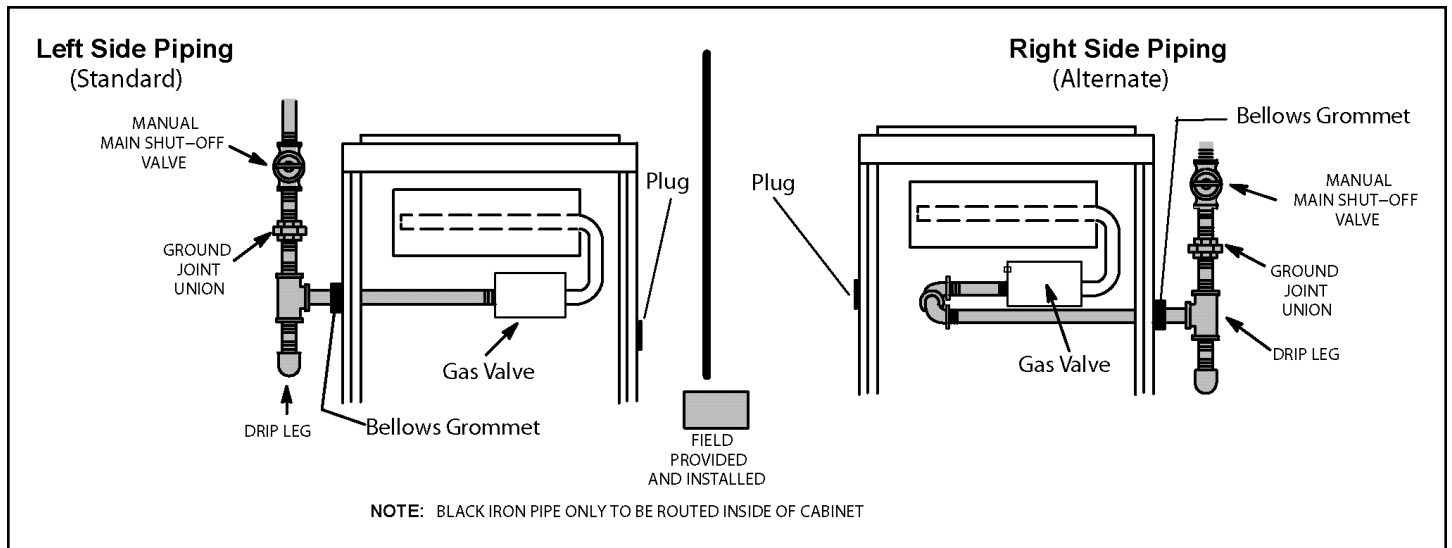
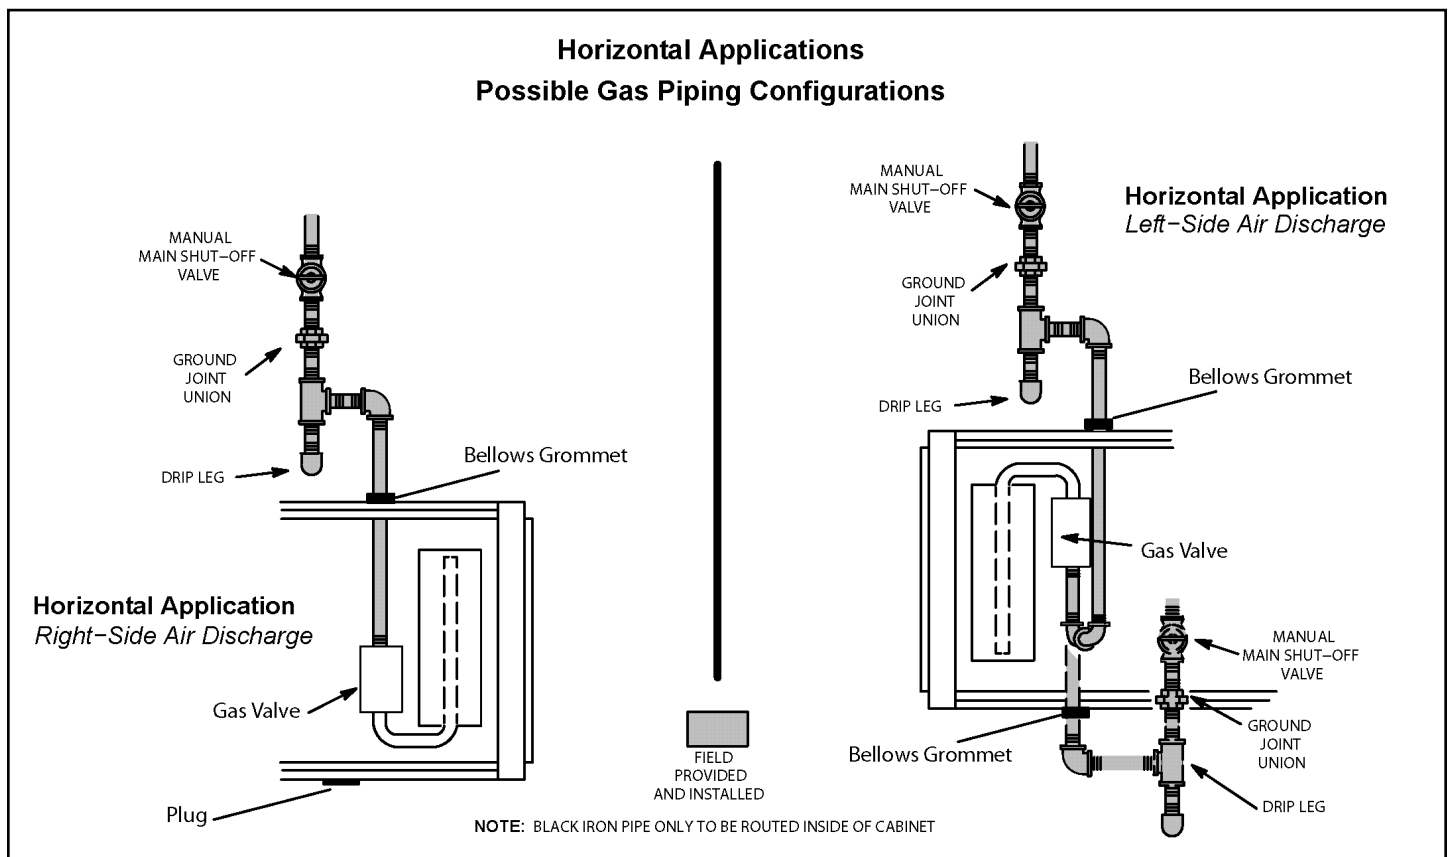

Figure 61. Gas Piping Upflow Applications
Figure 62. Gas Piping Horizontal Applications
1. Gas piping may be routed into the unit through either the left or right hand side. Supply piping enters into the gas valve from the side of the valve as shown in Figure 61. Move Bellows grommet to side which gas line enters. Ensure opposite gas line hole is plugged with supplied plug.
3. Gas piping must not run in or through air ducts, clothes chutes, chimneys or gas vents, dumb waiters or elevator shafts. Center gas line through piping hole. Gas line should not touch side of unit. See Figure 61 and Figure 62.